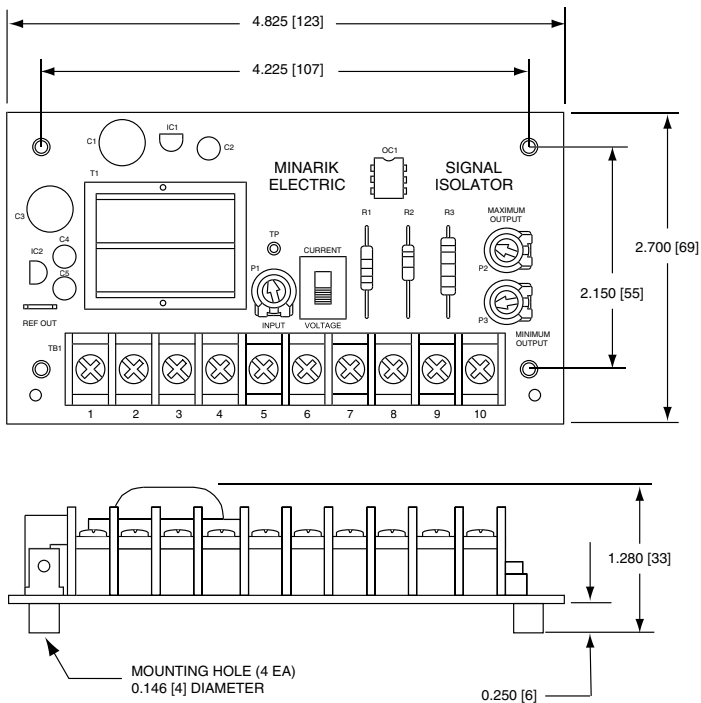

Figure 1. Process Control Module Dimensions
- Mount the PCM3 in either a horizontal or vertical plane. **The PCM3 is mounted using 4 ea. 0.25 inch [6mm] standoffs.** See Figure 1, page 2 for the physical locations of these standoffs. Use #8 panhead screws to fasten the standoffs to the mounting surface.